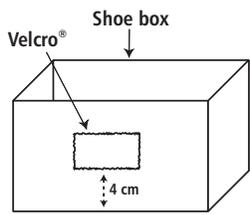

Figure 4
2. Glue a 5-cm section of Velcro® to the location of the "X" approximately 4 cm from the bottom of the shoe box (see figure 4).